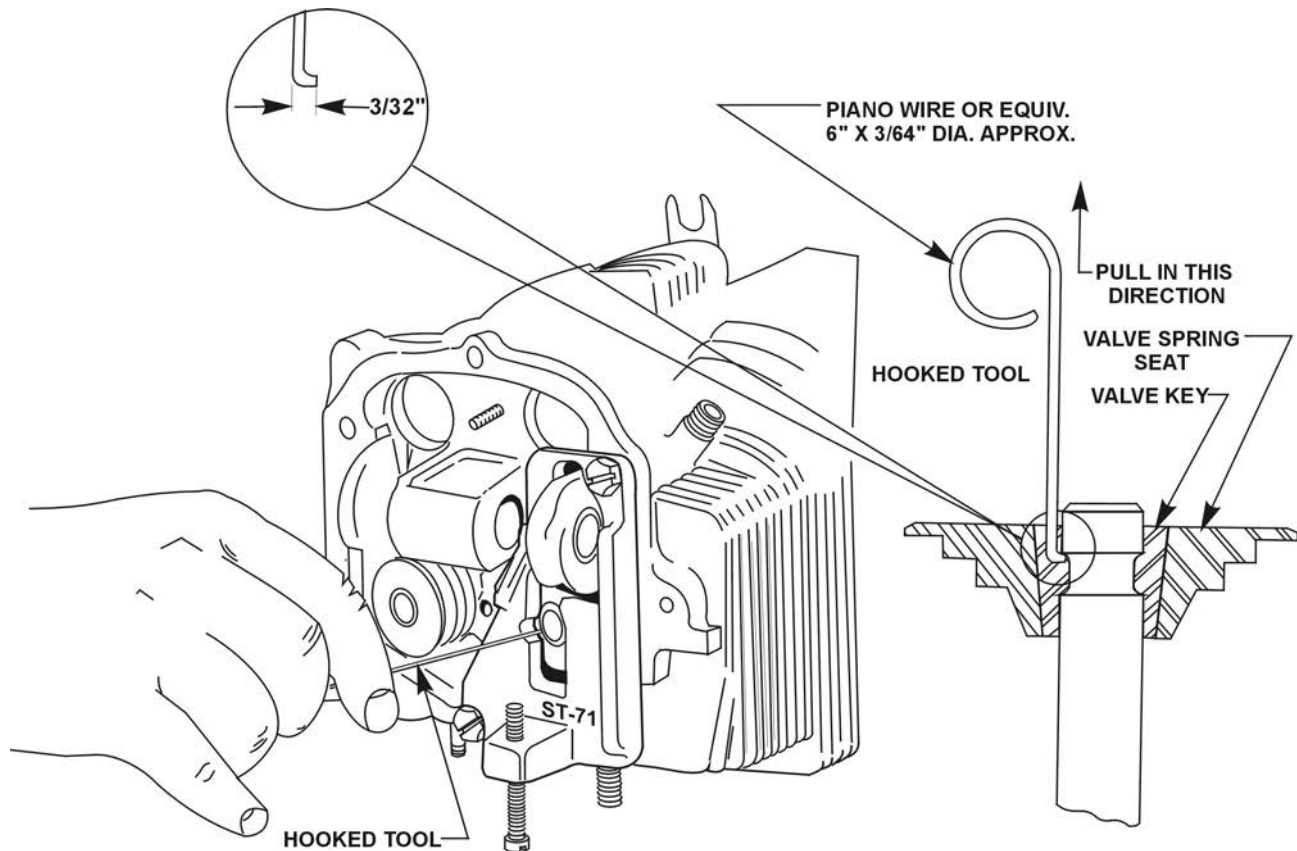

Figure 4. Method of Using Hooked Wire Tool to Pull Valve Into Position for Removal of Tapered Keys
8. Engines Equipped with Solid Stem Exhaust Valves: Remove the tapered valve retaining keys by moving the piston of the cylinder being inspected to near its top end of travel. This will eliminate any chance of the valve sliding into the cylinder after the tapered keys are removed. Fabricate a small hooked tool as shown in Figure 4 and insert it between the valve keys engaging the hook of the tool with the underside of the valve tip as shown in Figure 4. Tap on the fixture with a plastic headed hammer while exerting a steady pull on the valve stem, with the hooked tool, until the valve keys release.